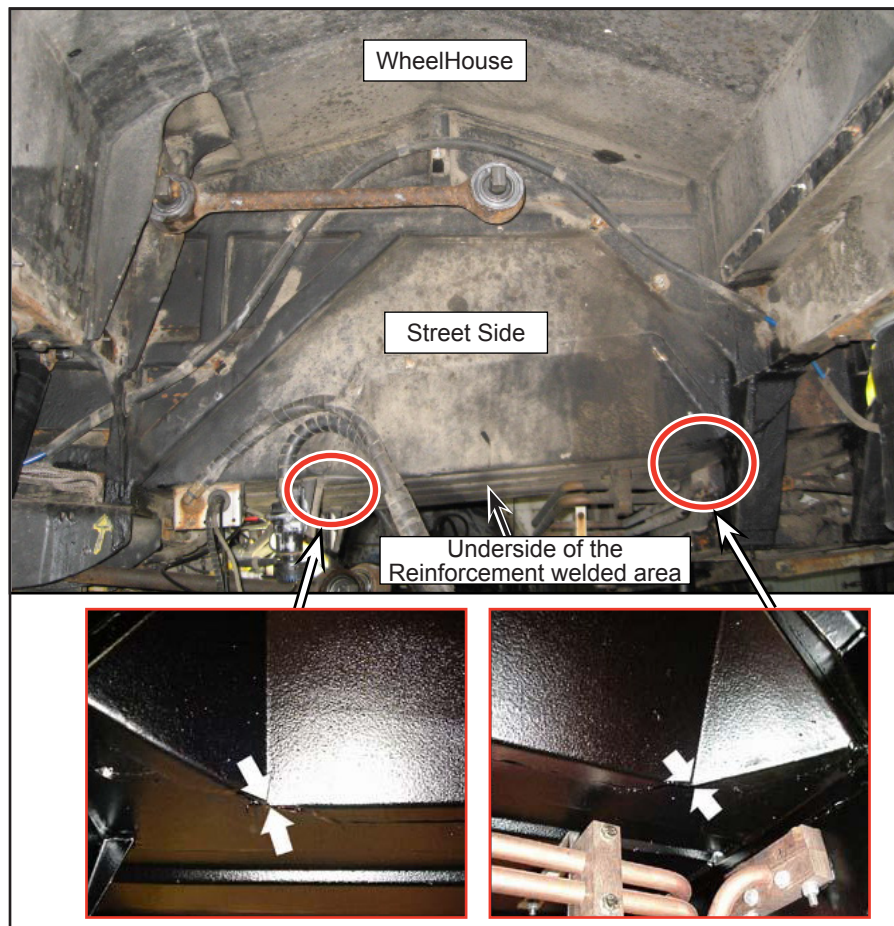

Figure 2 - Inspection for Cracks Underneath the Street Side Wheelhouse
- 1.10. Locate the area to be inspected as shown (see Figure 2).